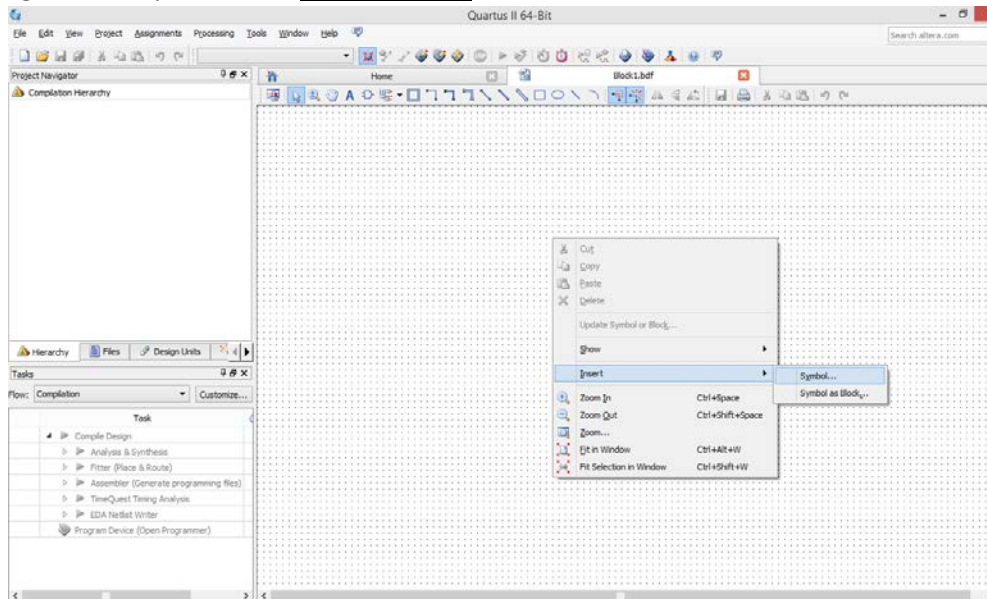

Fig 10. Insert symbol
1. Flip the RUN/PROG switch into the RUN position. Select **Tools > Programmer** that should like fig 10.
3. The Programmer listed file in the window in fig 10. If the file not already listed the click Add file and select it. The file should in the output_files and look like the project name which in *.sof file. And checked Program/Configure then Start to program to DE-0.